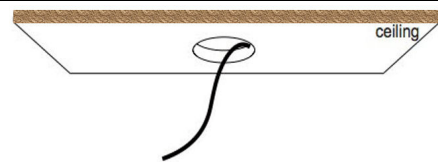

Fig.3
- Place the power cord in the ceiling (Fig3).